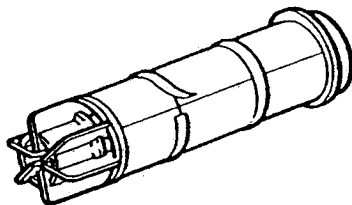

Fig. 24
-Take the telescopic air duct from its pack. Open the air duct out to the wall thickness. Using the tape provided seal the joints of the three sections of the air duct, ensuring an overlap of at least 30mm (1 $\frac{1}{8}$  in) at each joint (Fig. 24).